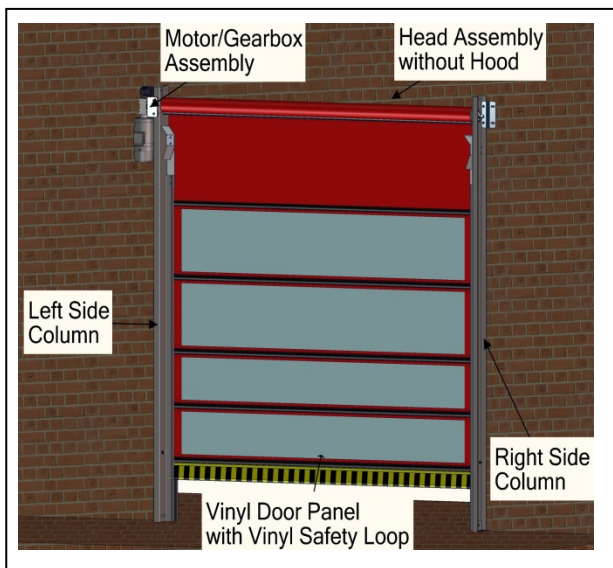

Figure 2
Figure 2 shows the location of the major components of the door and the general placement of the associated sub-assemblies for a typical installation.
**NOTE:** Figure 2 shows the front of the door. Left and right are determined when viewing the front of the door.